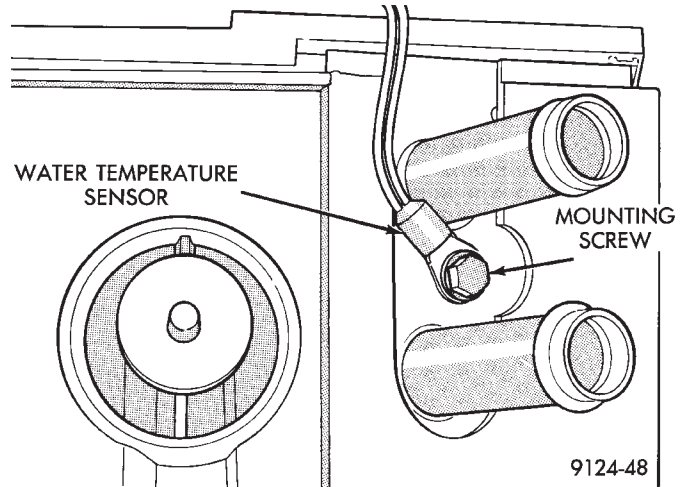

Fig. 12 Water Temperature Sensor Removal and Installation
(1) The A/C-heater housing assembly must be removed for Water Temperature Sensor replacement. Refer to Heater-A/C Unit Housing Removal and Installation—AC/AY Body for procedures.
(2) Remove sensor mounting screw (Fig. 12).
To install, reverse the preceding operation. When tightening the sensor mounting screw, allow the sensor to rotate and contact the upper heater hose nipple (Fig. 12). This will aid in sensor efficiency.